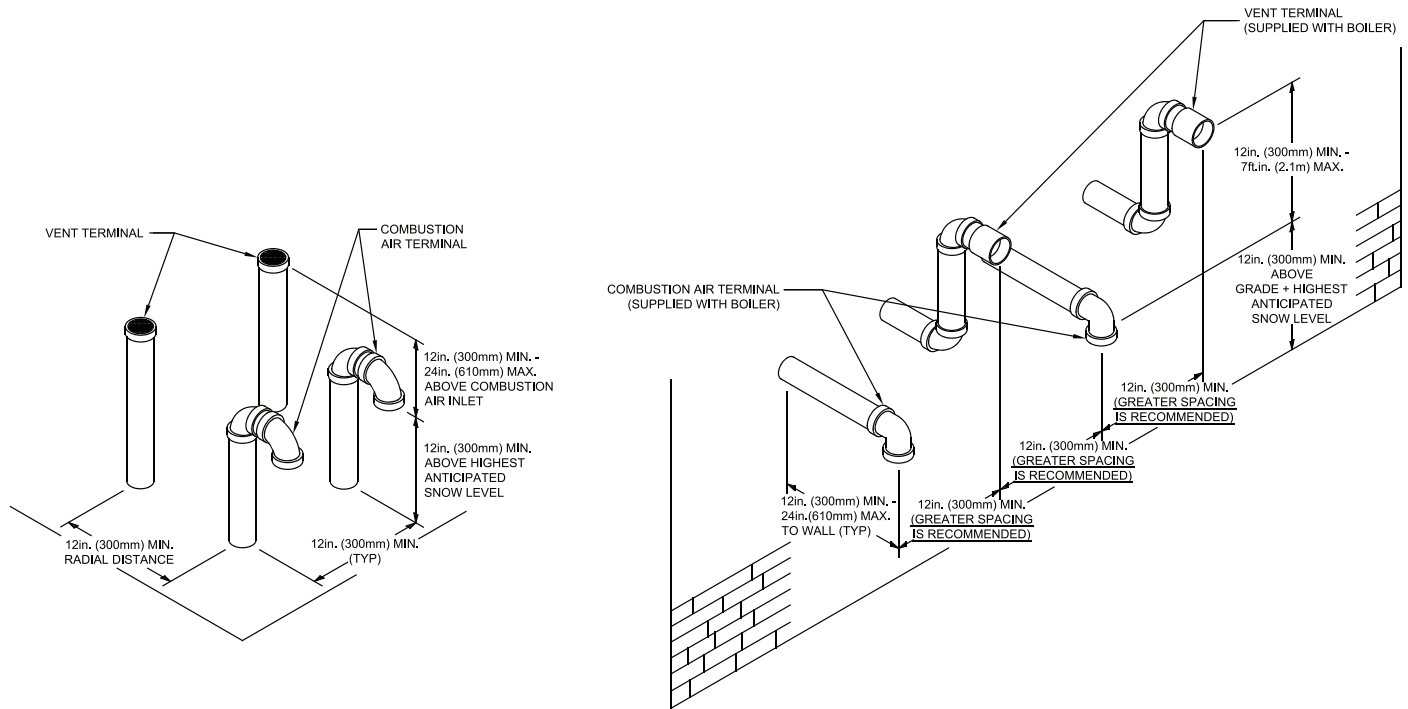

Figure 18: Multiple Boiler Direct Vent and Air Intake Terminations
- a. Multiple boiler vent terminations are shown in Figure 18.
- a. Multiple boiler combustion air terminations are shown in Figure 18.